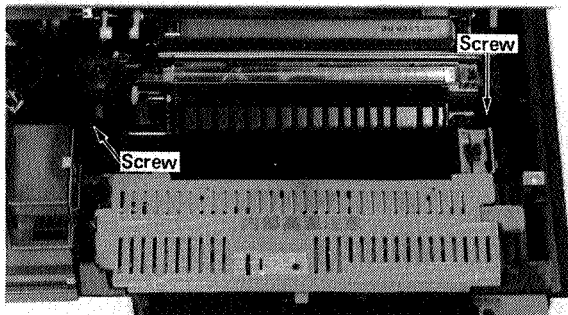

Figure 4-51
- (4) Unplug the connector located at the rear of the printer.
- (5) Separate the pedestal (2) from the printer. (See Fig. 4-51.)
- (6) Take out the paper detection arm (2) together with the mounting plate.